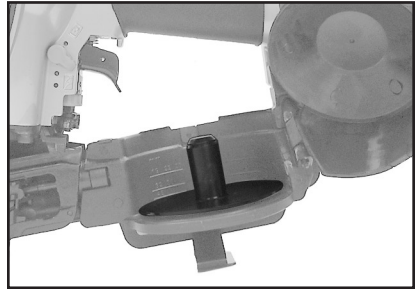

Figure 5. Adjusting plate.
3. Pull up and rotate the adjusting plate, shown in **Figure 5**, to match the magazine mark with the nail length to be installed. (Rotating the adjusting plate locks or unlocks its position.)